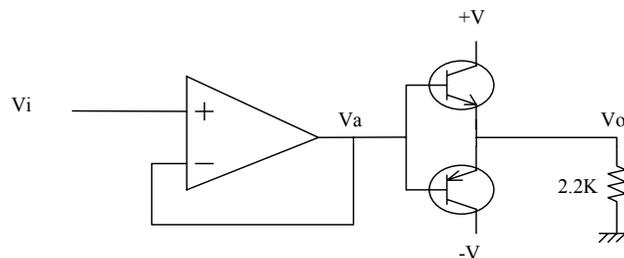
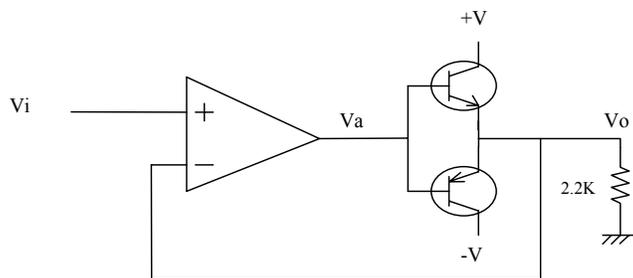

Figure 1
Figure 2
Next, make a sketch of the traces of a proto-board (some people refer to these as breadboards, even though they are different things). There are many resources in books and on the web for you to refer to, if you have forgotten how a proto-board is arranged. Also, make another sketch of how you will place and connect the components of the circuit seen in figure 1. Be sure your sketch includes the placement of the components on the proto-board. The sketch does not have to be perfect, but should be a reasonable attempt. This is just to get you thinking about how you will arrange the circuit on the proto-board. This is also worth 5 points.
Figure 1 shows a simple unity gain amplifier with a push-pull (Class B) amplifier stage that is often used in the output stages of stereos and servo amplifiers. Due to the V_{BE} of the silicon transistors, this circuit has a dead-band between about -0.6v and +0.6v. This ‘cross-over’ distortion can be nearly eliminated by closing the feedback loop around the push-pull stage as the circuit shown in Figure 2.
Construct the circuit shown in Figure 1 using a LM741 op-amp and 2N3904 (NPN) and 2N3906 (PNP) transistor. The node with the arrow is the emitter (E), and the top transistor in Figures 1 and 2 is the NPN transistor. Their pin-outs are shown in Figure 3. Note the positions of the notches and shapes of the elements.
Modify the circuit so that the feedback loop is closed around the push-pull stage (as in Figure 2). Input a ~ 1 kHz sinewave to the circuit and observe the waveform at V_a and V_o . Include these waveforms in the report. Is this system linear from V_i to V_a ? Is this system linear from V_i to V_o ? Now use the oscilloscope to X-Y plot the transfer characteristic from V_i to V_a and from V_i to V_o . Use a 100 Hz sinewave input for V_i viewed on Channel 1 (X), and the other signal on Channel 2 (Y).